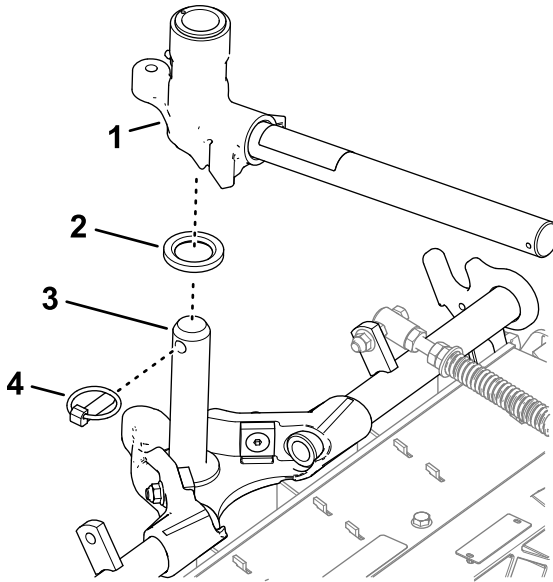

Figure 29
2. Insert the lift-arm yoke onto the carrier frame shaft (Figure 29).